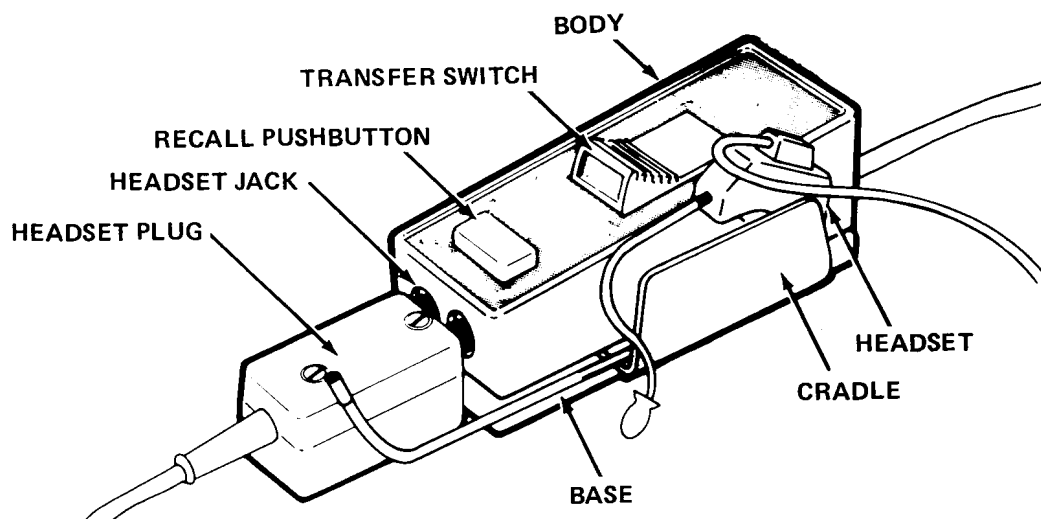

Figure 1. Unit Assembly with Headset.
2.01 The unit (Figure 1) consists of a headset jack, receptacle, transfer switch, recall pushbutton, and an amplifier housed in an ivory-colored plastic case. The unit comes equipped with either an 18-inch cord (Model JS-180-1) or an 8-foot cord (Model JS-180-2). A snap-on cradle provides a place for storing the headset.